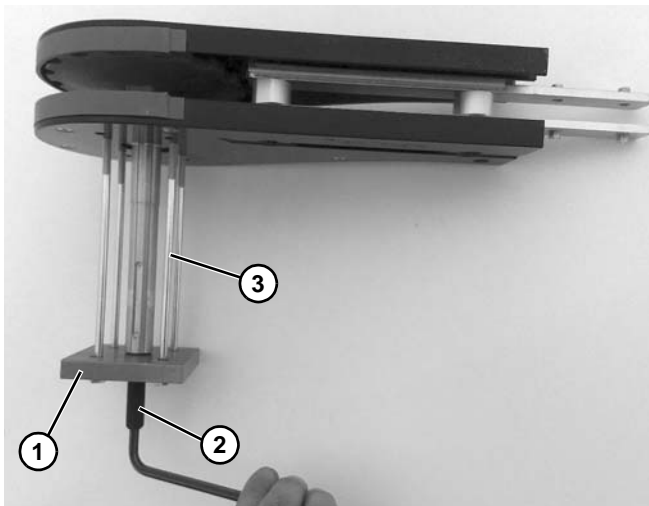
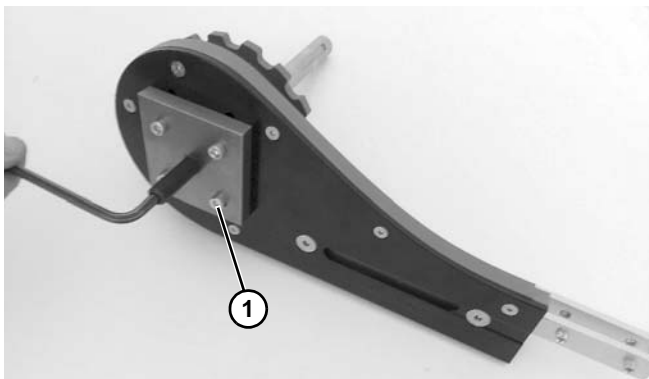

Figure 128
Figure 129
6. Use the bearing tool (**Figure 128, item 1**) to unseat bearings by inserting the four screws and turning the threaded rod (**Figure 128, item 2**) to push bearing out. **NOTE:** Insert the longer screws (**Figure 128, item 3**) on the drive shaft side and the shorter screws (**Figure 129, item 1**) on the non-shaft side.